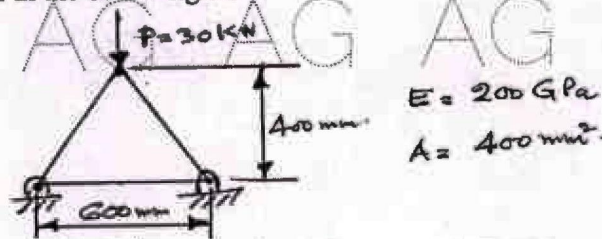

Figure 1
3. Find the nodal displacements and stresses in horizontal member and support reactions of truss shown in the below figure 1. [15]